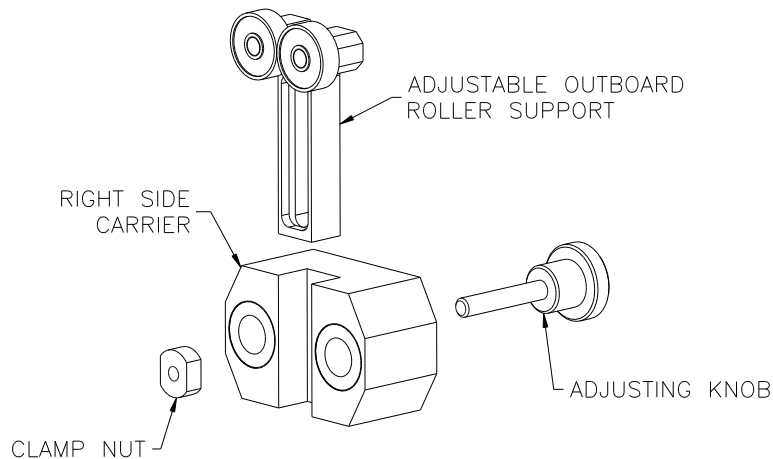

Figure 12. Outboard Roller Support Assembly
8.0 Outboard Roller Support – (See Figure 12)